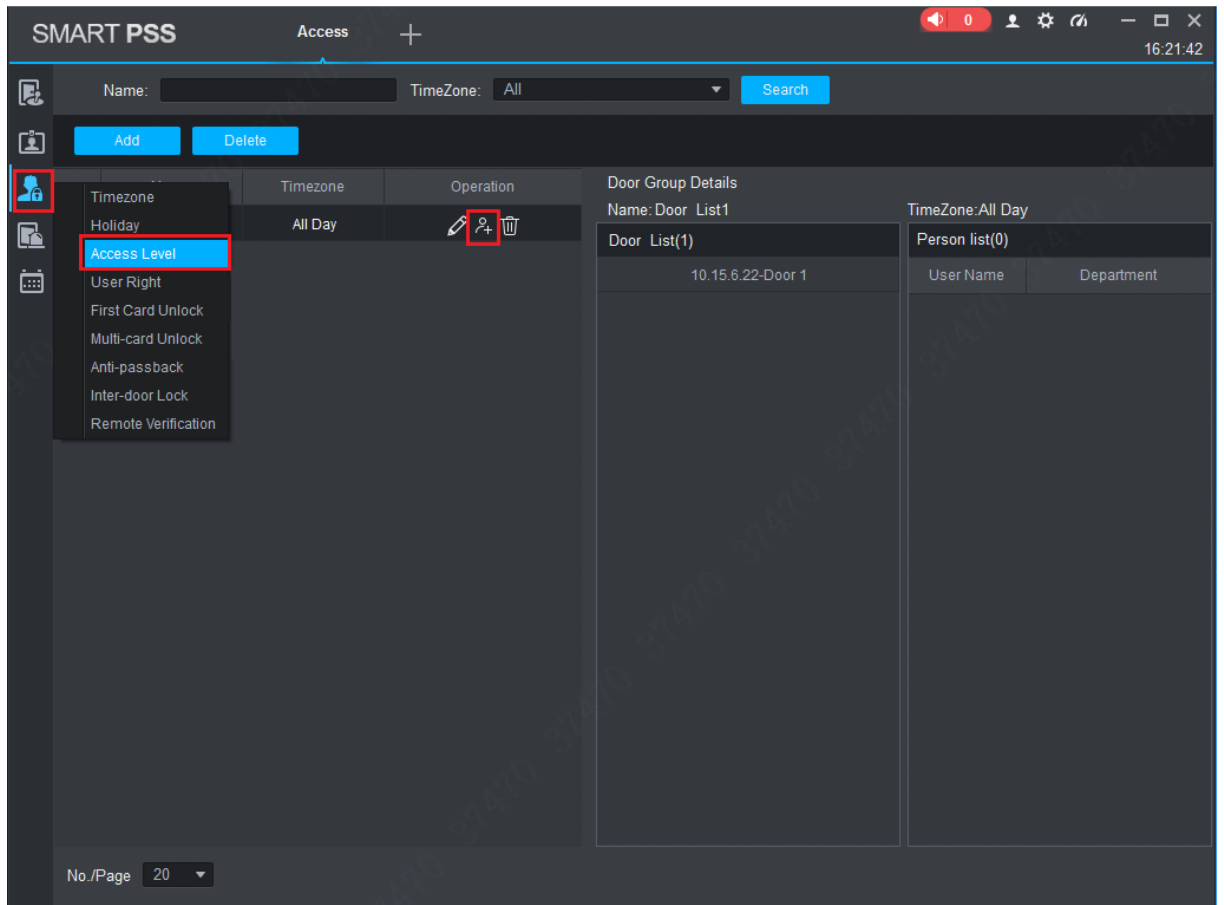

Figure 4-15
Step 1 In “Access” interface, click , and then click “Access Level”, as shown in Figure 4-15.